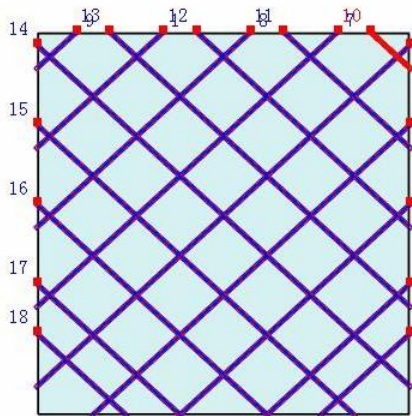

Figure 3
2. As shown in Figure 3 below, use the same method to select the sewing lines to be arranged, and specify one of the other parallel lines. In the pop-up [Auto arrange sewing order] dialog box, select the appropriate option and enter the corresponding serial number After confirming, it is shown in Figure 4 below.